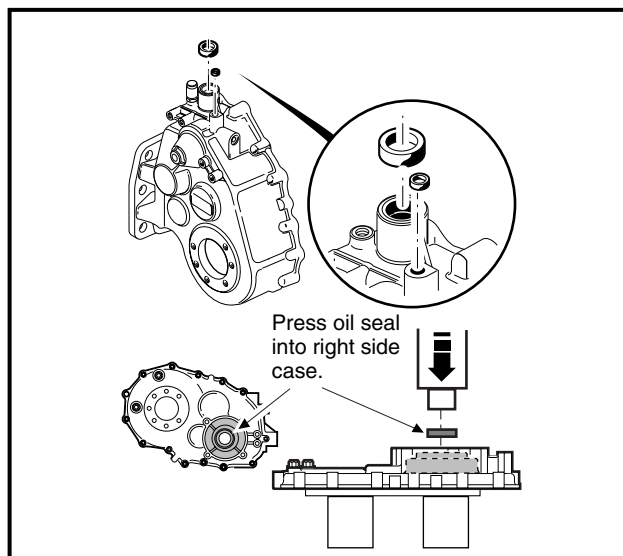

Figure 19-43 Install Seals
2. Put a light coating of clean transmission oil on the outside edge of the seal to make installation easier. Press two new oil seals (18 and 23) (**Figure 19-6, Page 19-6**) into the top of the left (driver) side case. Use an oil seal installation tool (CCI P/N 1014160) to install a new oil seal (58) (**Figure 19-14, Page 19-10**) into the right (passenger side) case. **See also Figure 19-43, Page 19-22.**